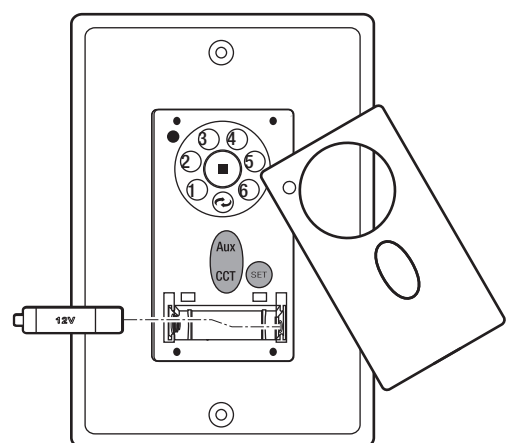

Figure 17
Remove the panel from the transmitter and then install one 23A/12V battery (included). To prevent damage to transmitter, remove the battery if not use for long periods of time. (Fig. 17)
3. Within 30 seconds of turning AC power on, press and release the "SET" button five seconds to enter the learning function. The down light of your fan, if applicable, will blink twice, and the fan will automatically begin to operate and start to rotate in counterclockwise direction and on the highest RPM for 1 minutes. When counterclockwise rotation has finished, the fan will automatically reverse to clockwise direction again to the highest RPM for 1 minutes. Fan will shut off when the self-calibration test has finished. The total self-calibration test will last about 2 minutes. (Fig. 17)